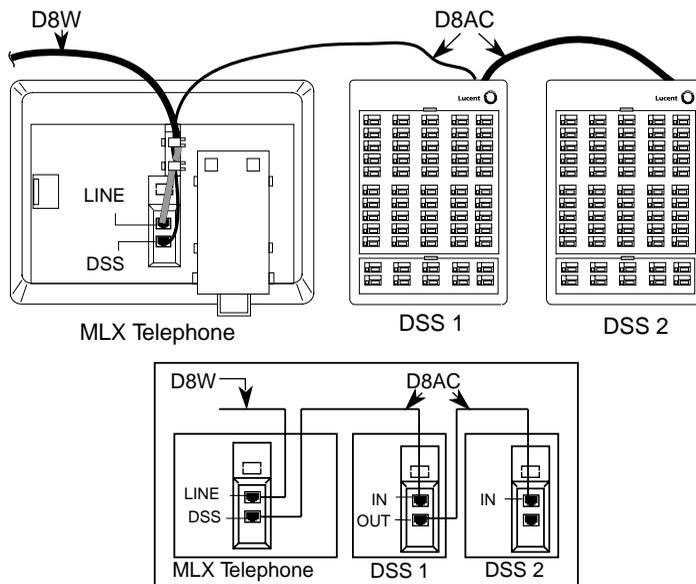

Figure 3-28. Connecting One or More DSSs
► **4. Wire the telephone to the DSS unit(s). See Figure 3-28.**